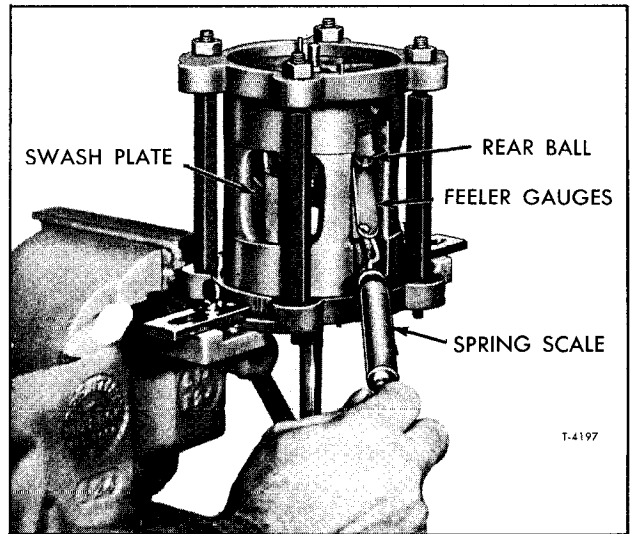

Figure 56—Checking Clearance Between Rear Ball and Wobble Plate
12. Use a leaf-type feeler gauge and a suitable spring scale to check clearance between the REAR ball and the wobble plate (figure 56) of the No. 1 piston. Use a suitable combination of feeler gauge leaves until 4 to 8 ounces of force is required to pull gauge from between the ball and the plate.